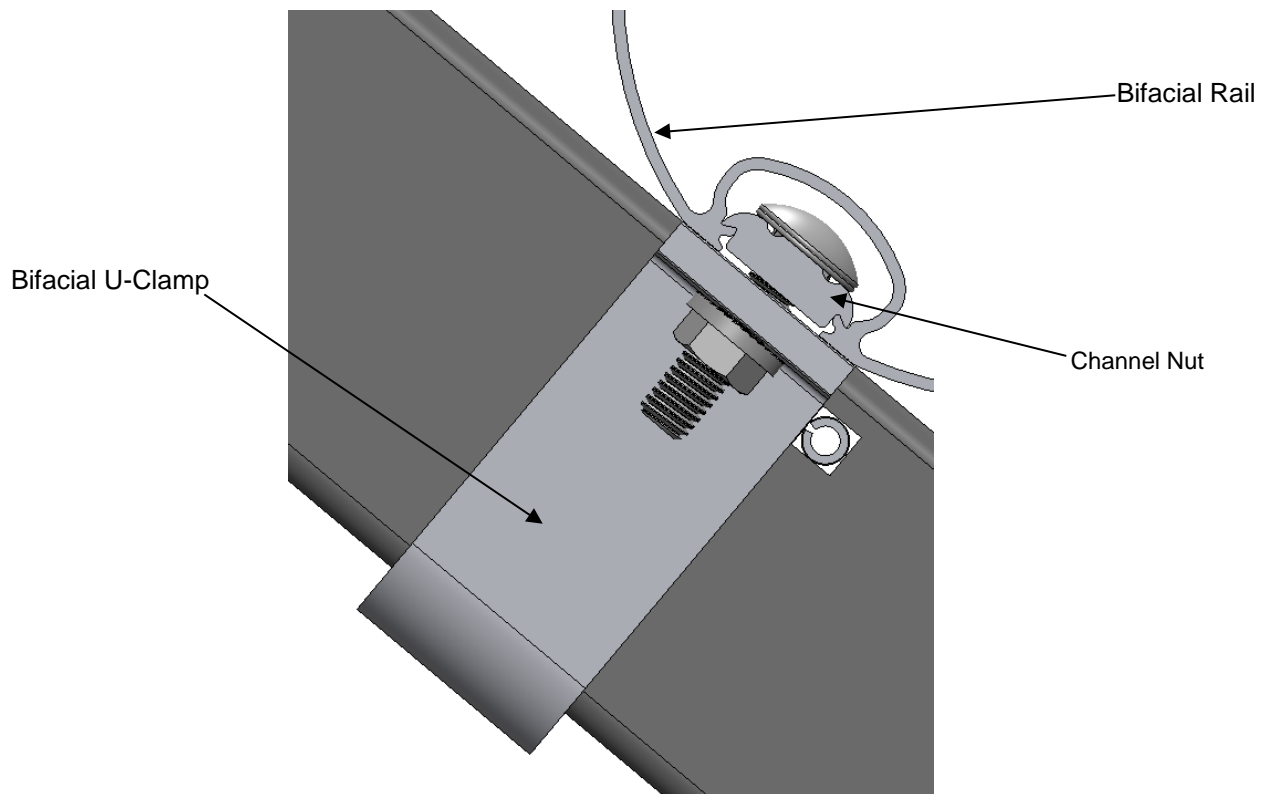

Figure 13: Nut-Clamp-Rail Assembly
- f. Hand-tighten the flange nuts onto the studs while making sure that the channel nut is in position (Figure 13).